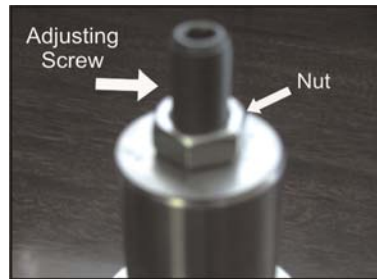

Figure 2
- 2.2.10 Set instrument regulator #1 to the desired output pressure by tightening the adjusting screw (see Figure 2) until the gauge reads the desired outlet pressure.